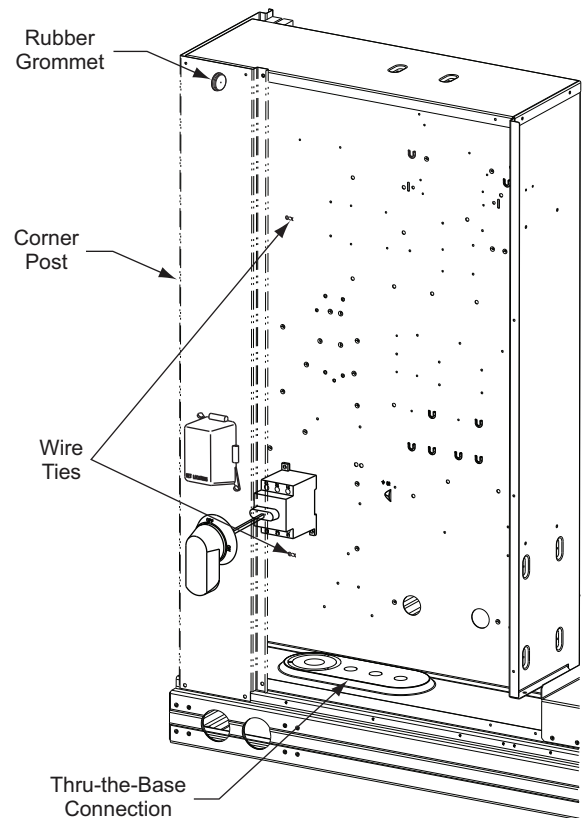

Fig. 12 — Low Voltage Wiring Raceway
14. All low voltage wiring should be routed through the provided wire ties (see Fig. 12) down the left side of the control box or secured to the unit control box with an electrical conduit in order to provide UL-required clearance between high-voltage and low voltage wiring.